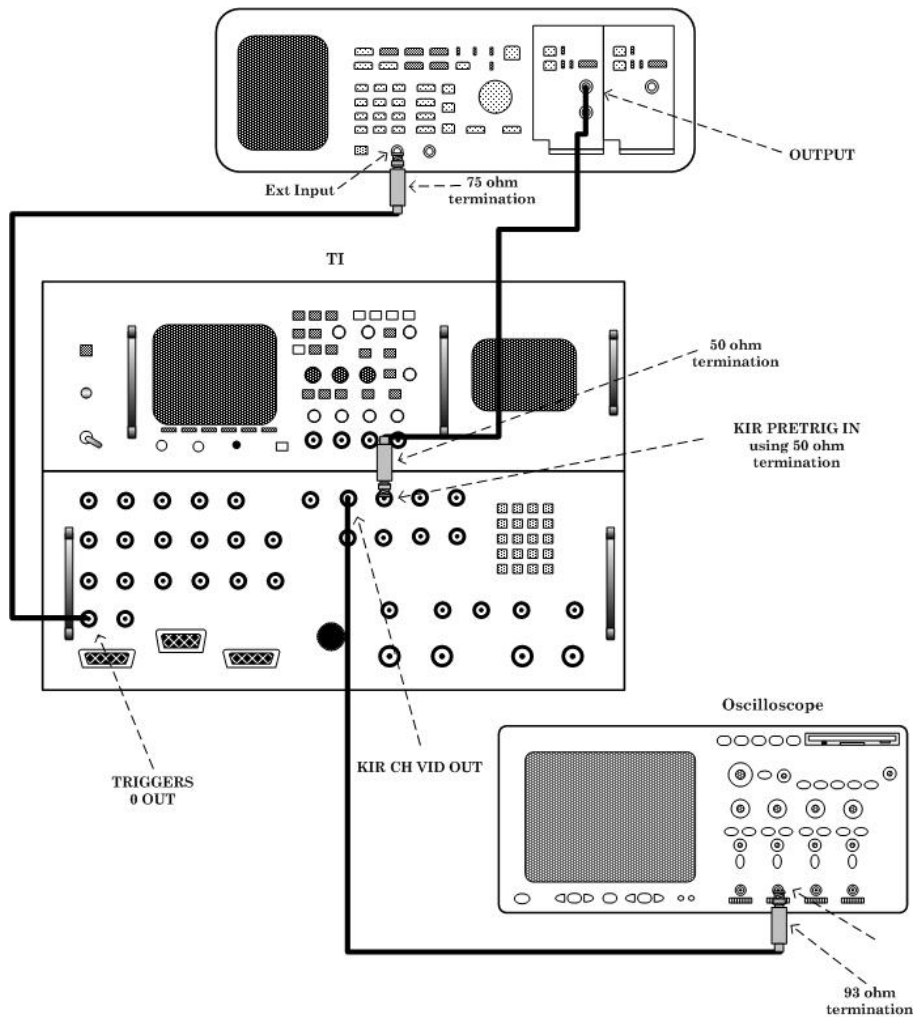

Figure 1. Kir hookup.
(1) Connect equipment as shown in figure 1.